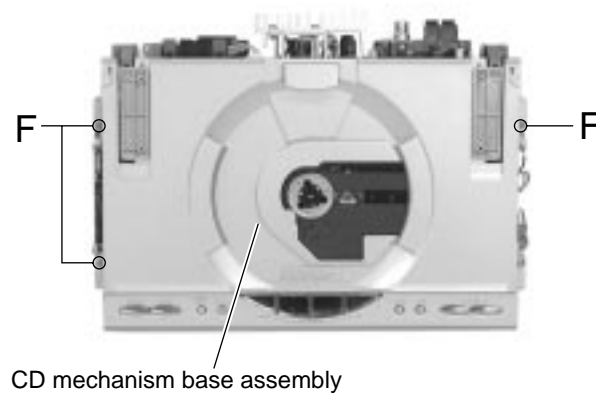

Fig.7
■ Removing the CD mechanism base assembly (See Fig.7 to 14)